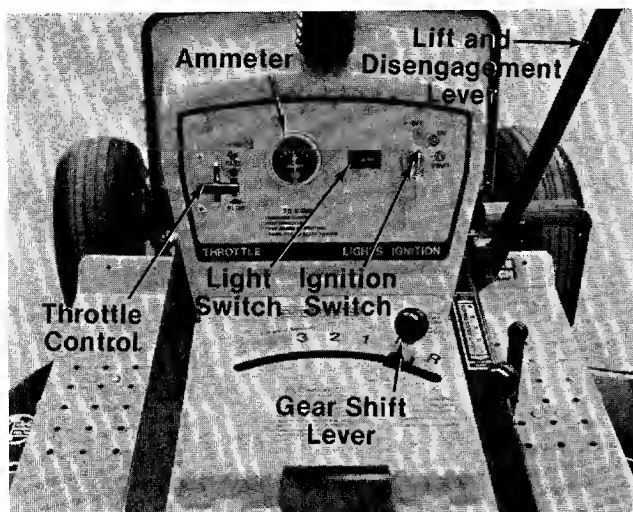

FIGURE 15.
The throttle control is used to regulate the engine speed and to activate the choke on the engine. To get maximum efficiency from cutting, the throttle should be in the FAST position when operating the mower. Pushing the throttle all the way forward past FAST, will choke the engine. See figure 15.
The gear shift lever is used to shift into one of three Forward Gears, "NEUTRAL" or "REVERSE." See figure 15.
Turn the key to the "START" position to start the engine. When the engine is running, let the key return to the "ON" position. To stop the engine, turn the key to the left to the "OFF" position and remove it to prevent accidental starting. See figure 15.
Push the light switch to turn on the lights. The lights will only operate when the engine is running. See figure 15.
The ammeter registers the rate of battery charge or discharge. The ammeter should register on the plus side (+) when the engine is running in the fast position until the battery is completely charged. With a fully charged battery or with the engine idling, the ammeter will not show a charge. See figure 15.
The lift and disengagement lever is used to raise and lower the cutting deck. Pulling it all the way back and locking it disengages the blades. The lift and disengagement lever **must** be in the disengaged position when starting the engine and when shifting into reverse. See figure 15.
5. Set the throttle control in the **CHOKE** position. See figure 15.
6. Turn the ignition key to the **"START"** position. When the engine is running, let the key return to the **"ON"** position. See figure 15.